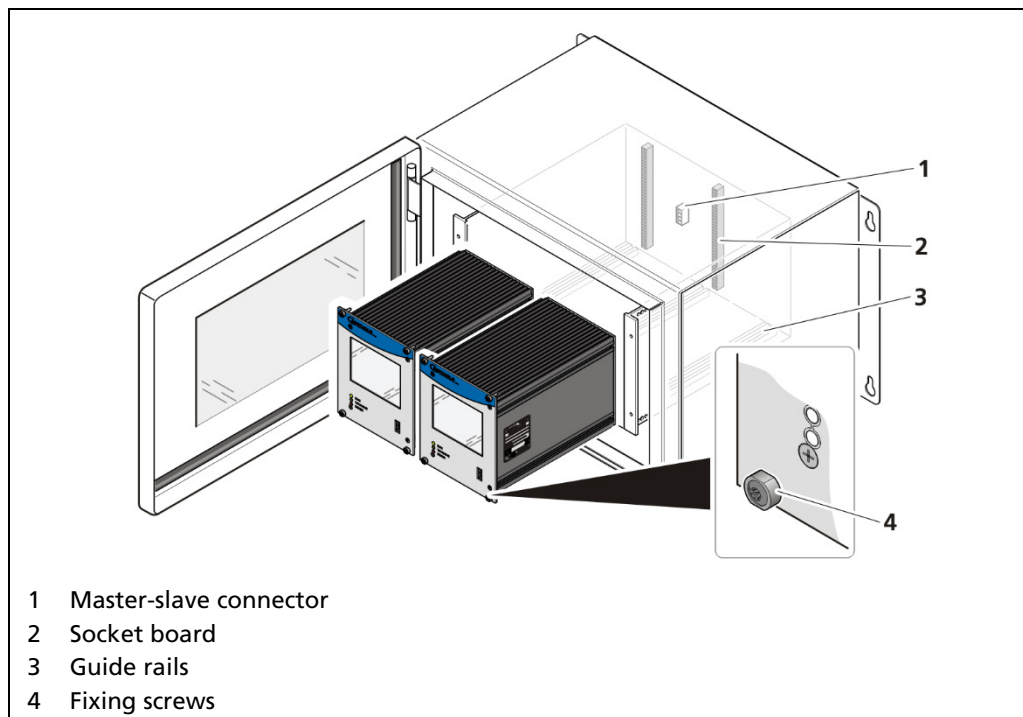

Fig. 15 Installation of the modules (master-master)
1. Set modules into the guide rails and push it gently until the plug connector of the module (Fig. 15, item 2) is inserted into the socket board.
2. Tighten all fixing screws (Fig. 15, item 4).